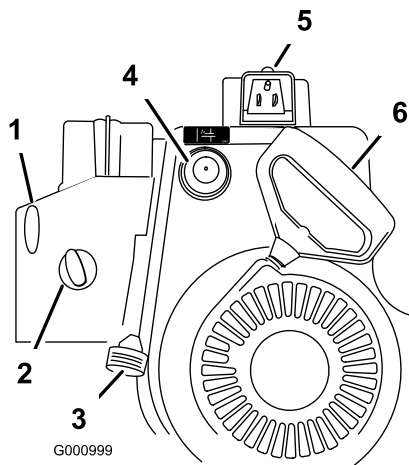

Figure 14
2. Remove the key from the ignition (Figure 14).
3. Pull the choke knob off (Figure 14).